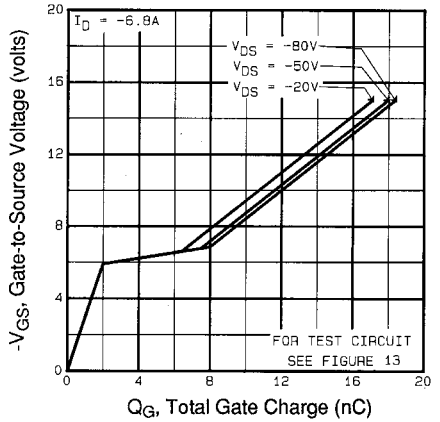

Fig 6. Typical Gate Charge Vs. Gate-to-Source Voltage
| Q _{gd} | Gate-to-Drain ("Miller") Charge | — | — | 9.0 | | V _{GS} =-10V See Fig. 6 and 13 ④ |